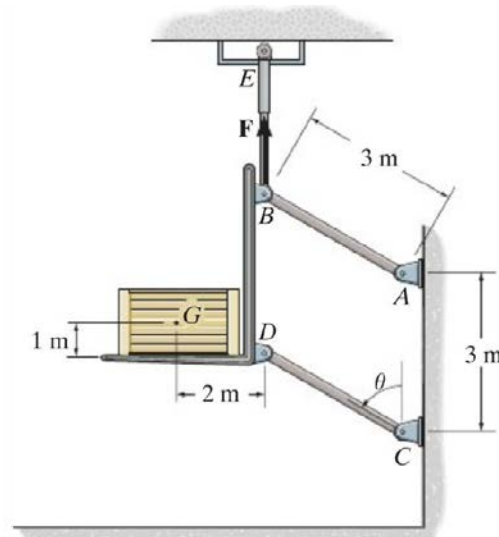

Figure 3
3. **Figure 3 shows a platform carrying a crate with a centre of gravity at G. The platform is at rest when $\theta = 45^\circ$. The 200kg crate does not slip on the platform. Based on the given information and neglect the mass of the links and the platform,**